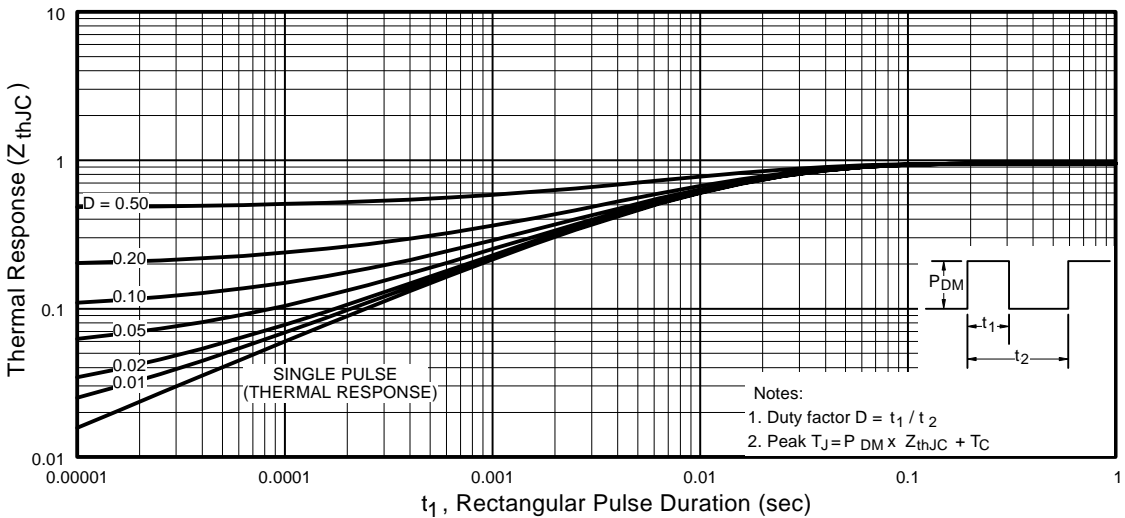

Fig 11. Maximum Effective Transient Thermal Impedance, Junction-to-Case
- ① Repetitive rating; pulse width limited by max. junction temperature. (See fig. 11)
- ② Starting $T_J = 25^\circ\text{C}, L = 1.7\text{mH}$